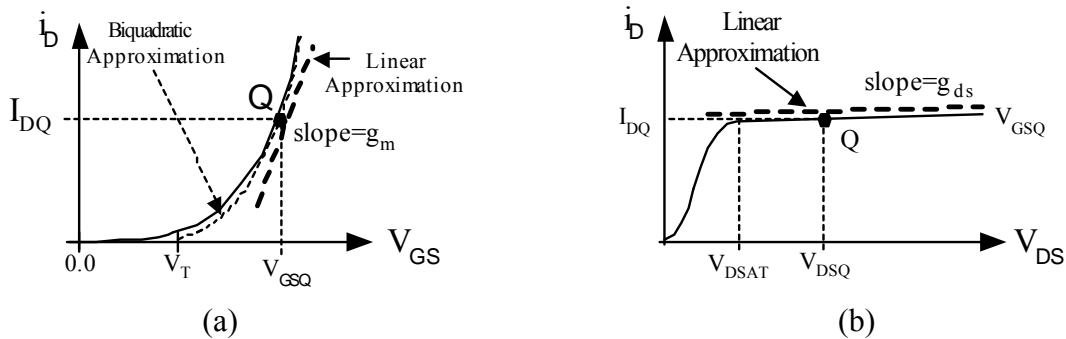

Fig.1 MOSFET characteristics: (a) input and (b) output.
The objective of this laboratory is to characterize and bias the MOSFET. A MOSFET can be characterized by two parameters;  $\beta$  and  $V_T$ . Fig. 1(a) shows the output and transconductance characteristics of an n-channel MOSFET and illustrates how  $\beta$  and  $V_T$  characterize the MOSFET. The large signal model for the MOSFET is given as follows:
For a given  $V_{GSQ}$ , the drain-source voltage can also be swept leading to the transistor's output characteristics shown in Fig. 1(b). The slope of the curve determines the transistor's output conductance, obtained as
2. To find  $V_T$  and  $\beta$ , sweep  $V_{GS}$  from 0 to 5V using small increments (1mV or so) with a nested sweep of  $V_{DS}$  from 3 to 5V using moderate increments (0.5V). This will generate a series of  $I_D$ - $V_{GS}$  characteristic plots similar to the one in Fig. 1(a). Use these plots to find the approximate value for the threshold voltage  $V_T$  and  $\beta$ .
4. Using the same setup as in step 2, sweep  $V_{DS}$  from 0 to 5V using small increments (1mV or so) with a nested sweep of  $V_{GS}$  from 1 to 5V using moderate increments (0.5V). This will generate a series of  $I_D$ - $V_{DS}$  characteristic plots similar to the one in Fig. 1(b). Use these plots to find an approximate value for the channel length modulation parameter  $\lambda$ .